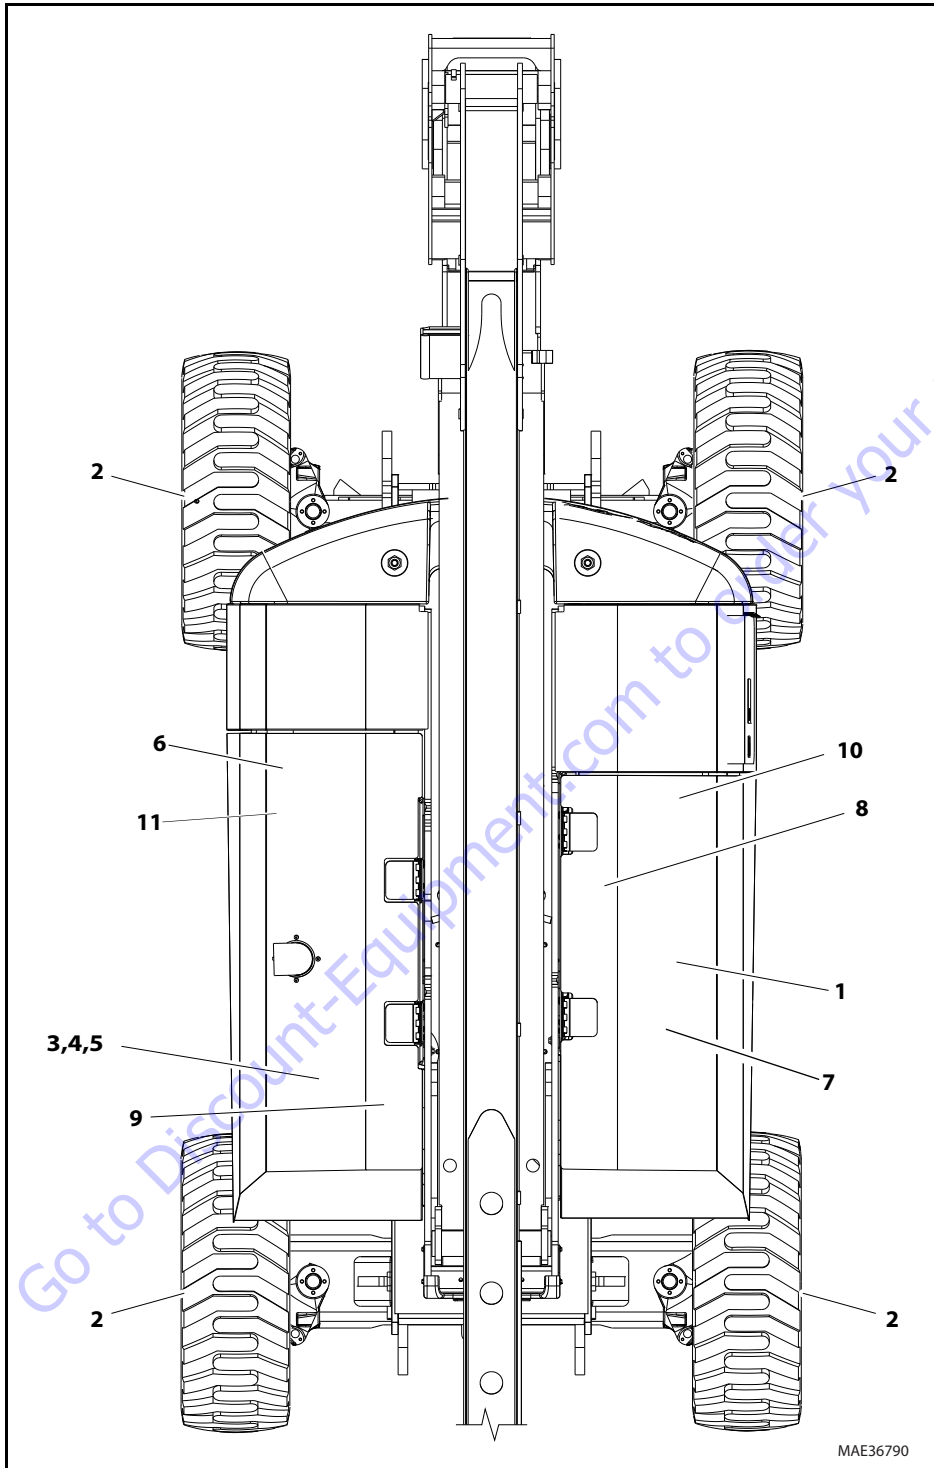

Figure 1-1. Maintenance and Lubrication Diagram
**NOTE:** The following numbers correspond to those in Figure 1-1., Maintenance and Lubrication Diagram.